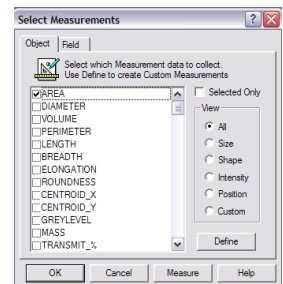

fig.48
9. Click the **Measure** icon in the **Task** toolbar. Click **Define** (fig.48) and create the following custom measurement as shown in figure 9: **Half_Brain_Area: CI2(F2)**. Click **OK**. See step 7 of this example or page 3 of the SimplePCI Quick Guide on how to add custom measurement. Check the custom measurement in the **Select Measurement** window > Click **OK** (fig.48).